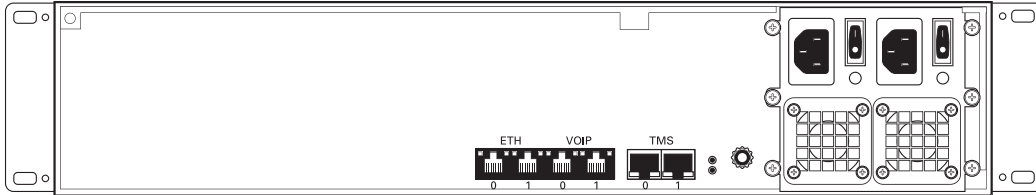

Figure 1.1 7800-CTRL
- One or two 7800-CTRL gateway controller(s). See figure 1.1 on page 2.
- One 7800-CTRL (TMG7800-CTRL or TMGIP7800-CTRL). See figure 1.1 on page 2.